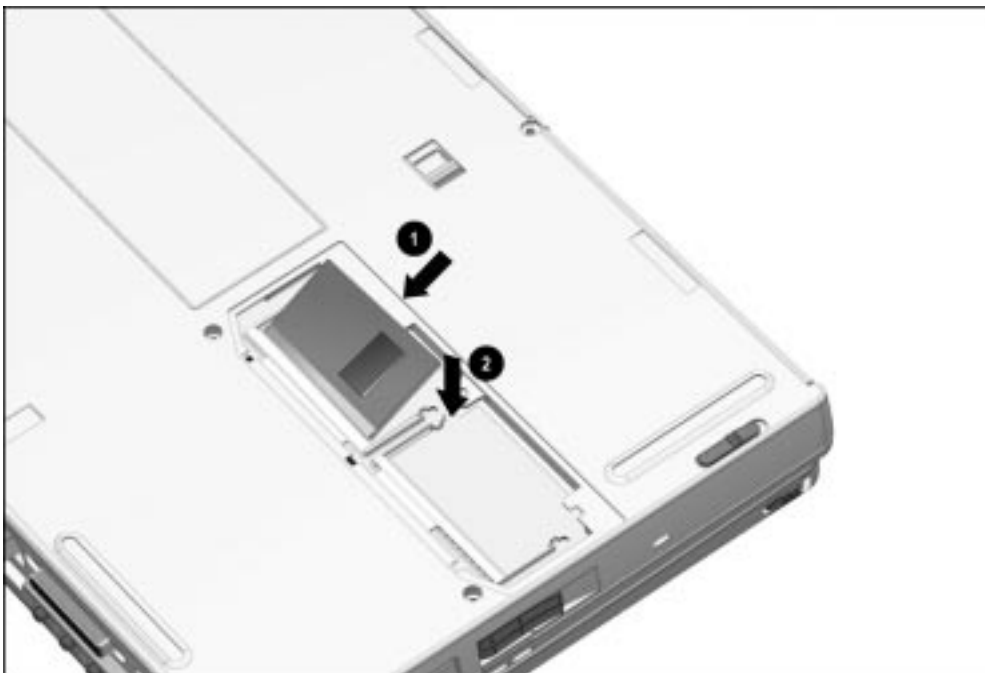

Figure 5-27. inserting a Memory Expansion Board
1. Insert the memory expansion board into an empty memory expansion slot at a 45-degree angle ❶ (Figure 5-27).
3. Push the memory expansion board down until the board is seated in the plastic retention clips ❷.